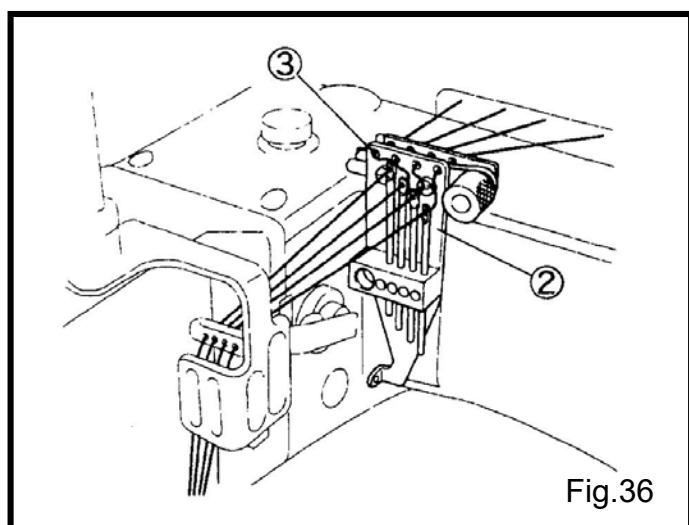

Fig.36
- (1) 右邊最高的過線孔①要跟線孔③成一直線。(Fig.36,37)
- (2) 設定過線孔④比①低 5mm。
- (3) 設定過線孔⑤比①低 9mm。
- (4) 設定過線孔⑥比①低 15mm。
- (1) Make the height of the right needle thread eyelets① to align their eyes with the eyes③ of the needle thread eyelet holder.(Fig.36,37)
- (2) Set the eyelet④ 5 mm lower than the eyelet①.
- (3) Set the eyelet⑤ 9 mm lower than the eyelet①.
- (4) Set the eyelet⑥ 15 mm lower than the eyelet①.